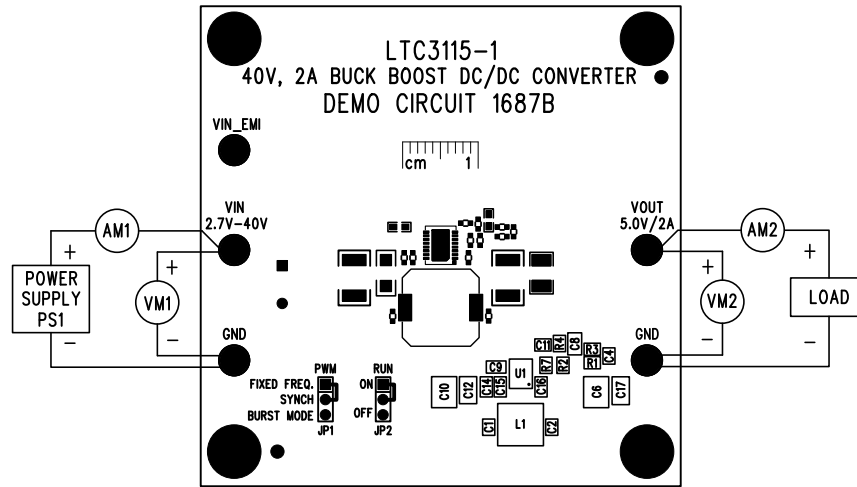

Figure 3. Proper Measurement Equipment Setup
Note: This manual is intended to be used with an updated version of the demo board titled, “Demo Circuit 1687B.” See Figure 3.
Using short twisted pair leads for any power connections and with all loads and power supplies off, refer to Figure 3 for the proper measurement and equipment setup. The battery/power supply (PS1) should not be connected to the circuit until told to do so in the procedure below.
2. With power OFF connect the power supply (PS1) as shown in Figure 3. If accurate current measurements are desired (for efficiency calculation for example) then connect an ammeter in series with the supply as shown. The ammeter is not required however.
3. Connect a 500mA load to V_{OUT} as shown in Figure 3 (10Ω for $V_{OUT} = 5V$). Connect an ammeter if accurate current measurement or monitoring is desired.